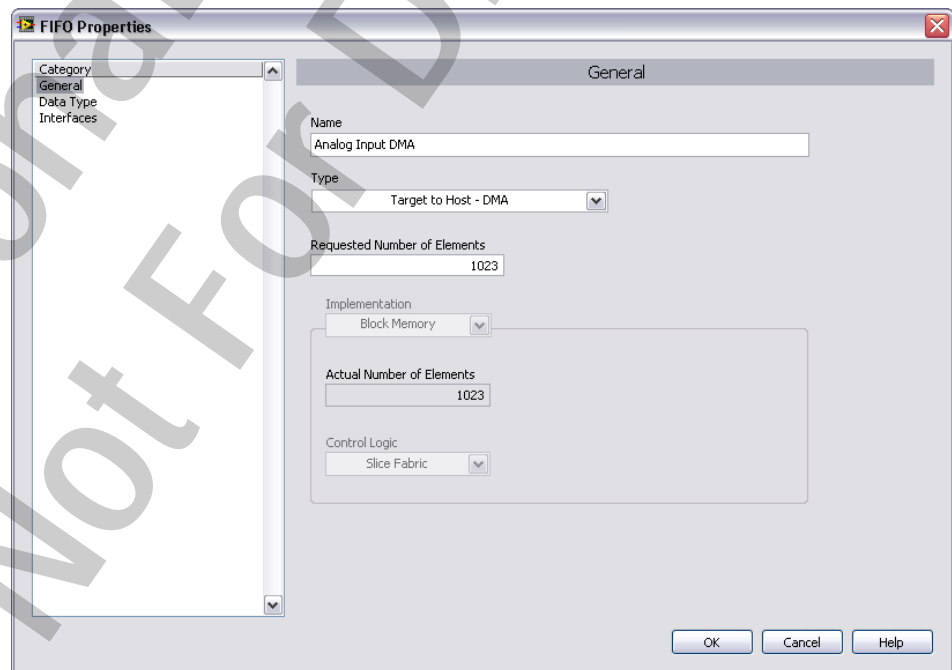

Figure 9-1. Analog Input DMA Properties – General
- ☐ Configure the FPGA FIFO Properties window as shown in Figures 9-1.